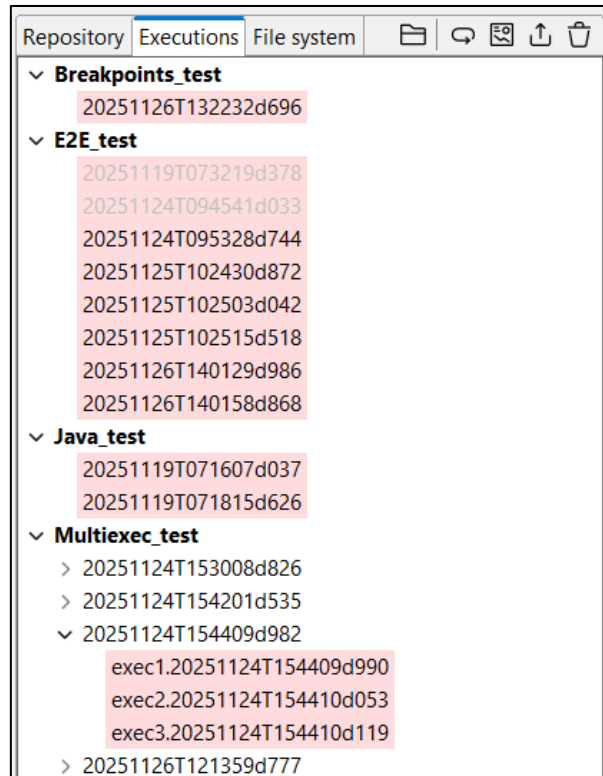

Figure 4-65: Executions view in the side bar
- *Time Statistics* tab: shows a pie with the simulation time percentage consumed by each module. In case there is more than one Simulation involving one Module, time is divided by the number of module repetitions. See Figure 4-65.